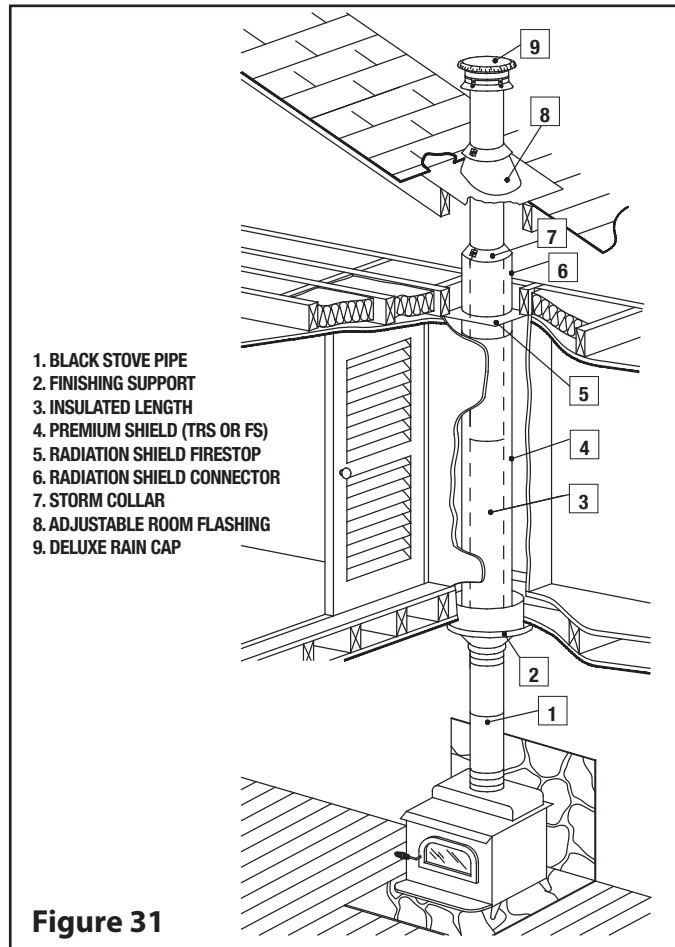
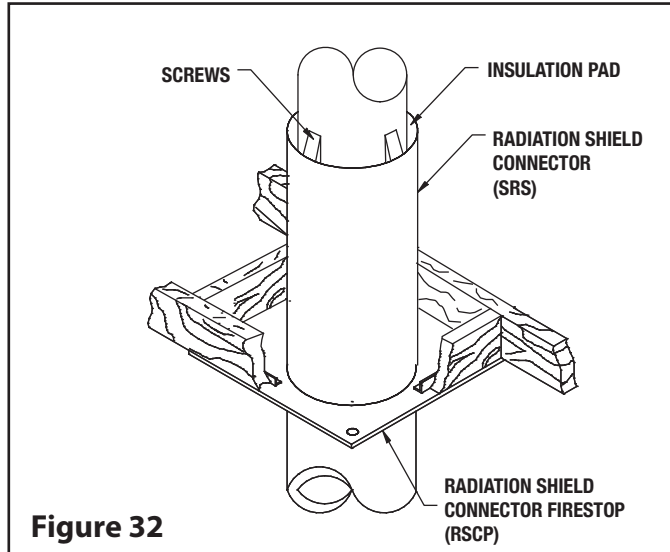

Figure 31
Figure 32
- At the ceiling level, install a Radiation Shield Connector (SRS) and a Radiation Shield Firestop (RSCP) on the chimney (see Figure 32). Slide the Radiation Shield Connector down until the bottom of the insulated tube passes just through the Radiation Shield Firestop as shown in (see Figure 31). Adjust the height until a minimum of (1") of the Radiation Shield Connector passes through the firestop below. Fix it to the chimney from the attic side using (3) - 1/2" self-tapping screws. The Telescopic Shield is then slid upwards to the ceiling and attached to the bottom of the Radiation Shield Connector using (3) - 1/2" self-tapping screws.